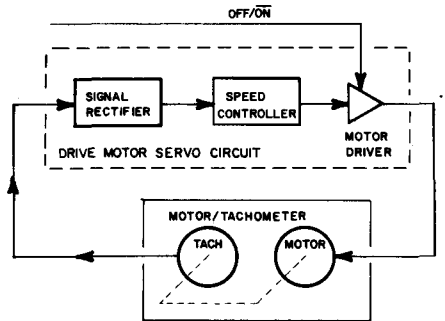

Fig. 7-13. Block diagram of drive motor system, Model 1540.
7.1.6 Drive Motor System Electrical Theory (Refer to Figs. 7-13 and 7-14)